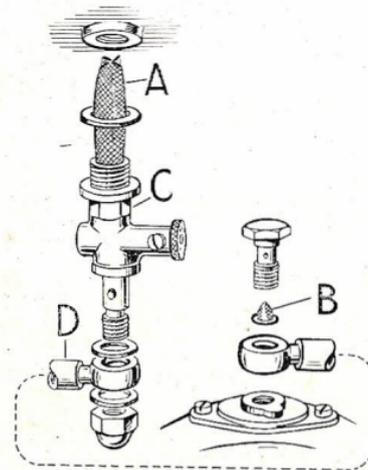

FIG. 10.
is intermittent, or none at all, lay the Ariel 3 on its right side, disconnect the pipe at the tap and unscrew the tap complete. Clean the filters (A) and (B), tap (C), and pipe line (D) Fig. 10, and replace. (See also "Carburetter Jet").